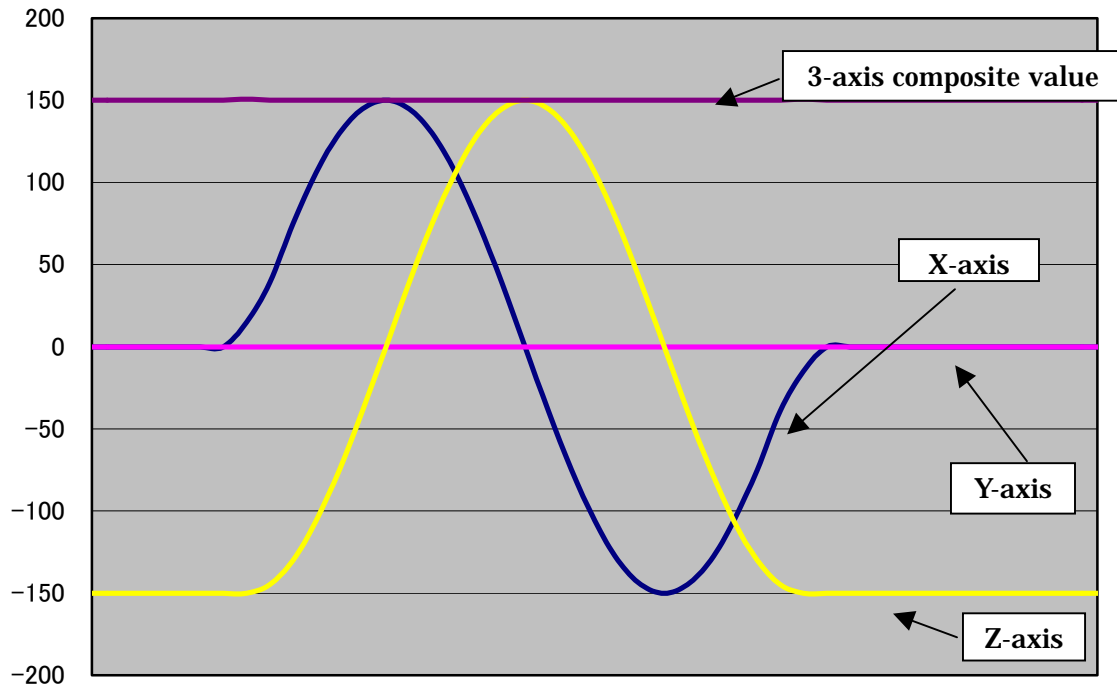

Figure 12 Data graph of rotating sensor one-turn in the direction of X-axis
- Tilt (Figure 12 Data graph of rotating sensor one-turn in the direction of X-axis)